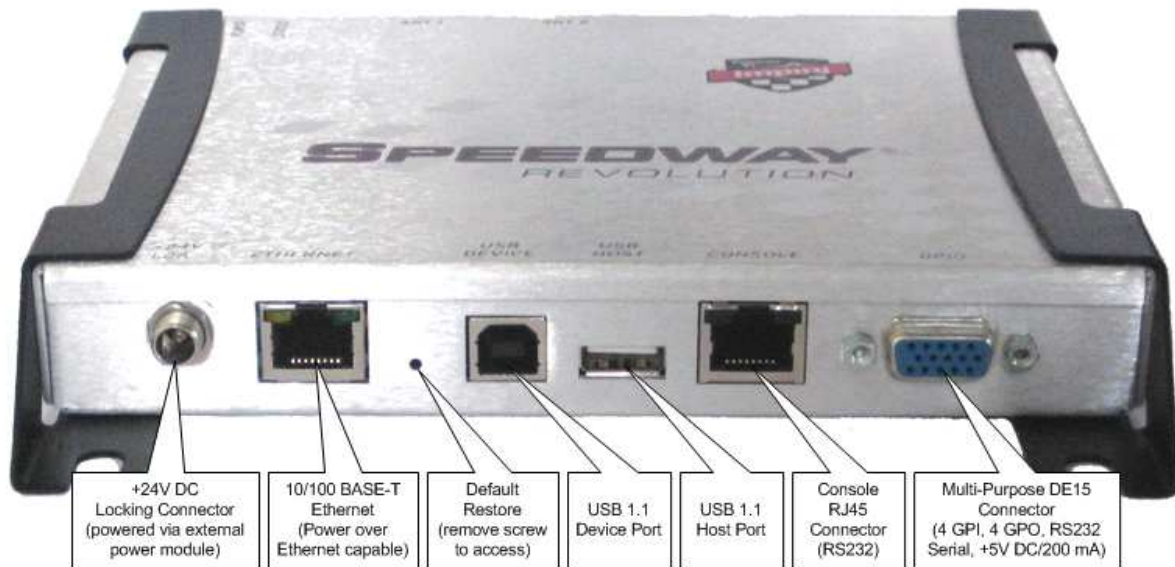

Figure 1 Speedway Reader Connections
3. Connect the GPIO board or GPIO Connector Box to the multi-purpose DE15 connector, and connect the Reader antenna to port 1 as shown in Figure 1 below.